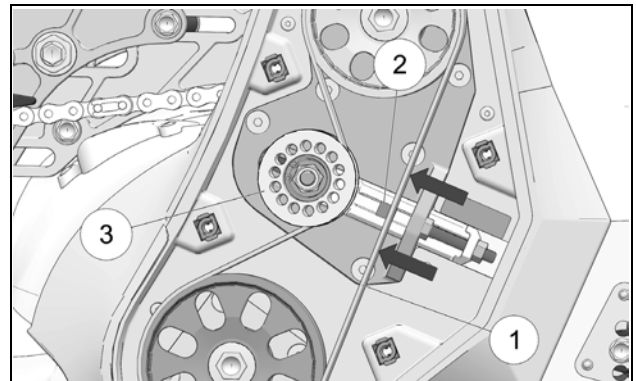

Figure 40
- With your thumbs, apply pressure to the belt (1), where the tension gauge (2) sits, toward the tensioner pulley (3). See Figure 40.